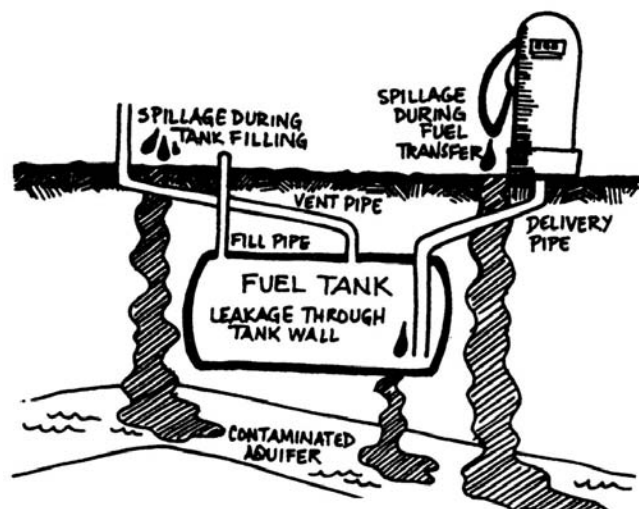

Figure 2: Contamination of groundwater due to improper fuel storage and transfer.
*Environmental changes.* Your senses—sight, smell and taste—are important for leak detection. Is there an unexplained oil-like substance on lakes or streams? Is nearby soil stained with petroleum due to spillage (Figure 2)? Is there a strong and constant smell of petroleum or wet places near your tank? Have you or your neighbors smelled fuel odors near plumbing or sewer line openings or in basements, or have you detected a petroleum flavor in your drinking water? Have you seen an area of dead plants or an area where plants don't grow near your petroleum storage? Normally you can see leaks from an aboveground tank, but you should be aware of leaks in areas you cannot easily see, such as where the tank is in contact with the ground.